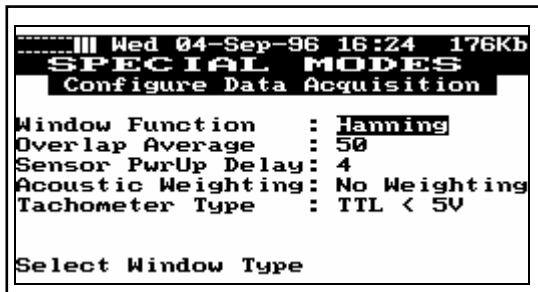

Figure 10
**SM2 Data Acquisition.** After pressing the **[ENTER]** key, the screen will display the “SPECIAL MODES Configuration Data Acquisition” banner. (See Figure 10). In the lower area of the screen five selectable data acquisition settings. To move between fields, press the **[UP ARROW]** or **[DOWN ARROW]** key.